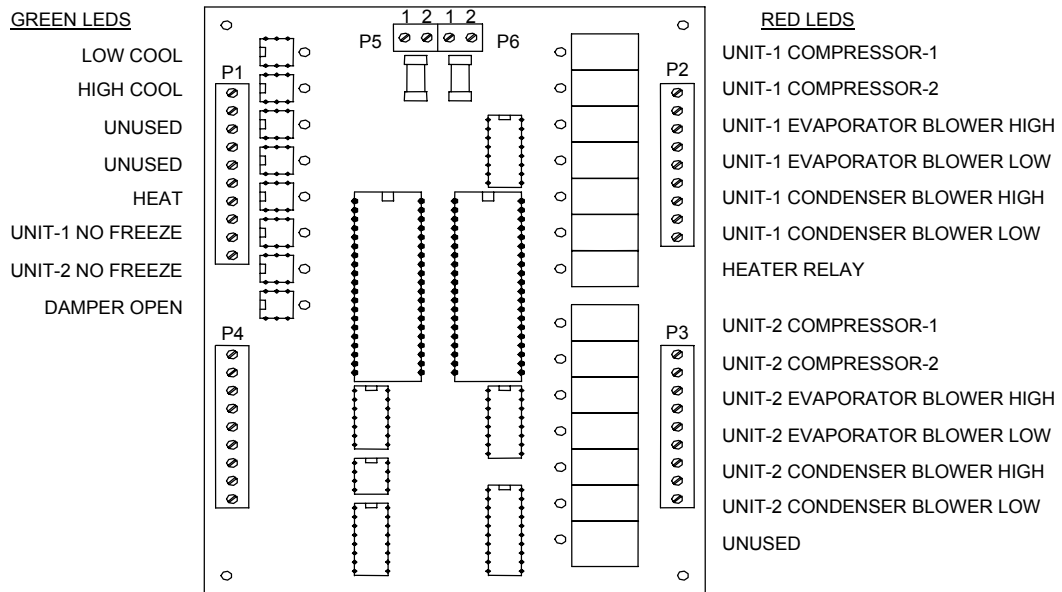

Figure 1. ECU Controller Board.
**Environmental Control Unit (ECU):** The ECU is controlled from the wall switch in the food preparation area. If the ECU is not cooling or warming properly, check that the ECU Mode Switch in the food preparation area is set to the proper position. At the ECU Control Box located on the Mechanical Room wall behind the generator, next to the air conditioners, check the power supply output voltage at P5 (5 VDC) and P6 (12 VDC) as shown in Figure 1. If the voltage is not correct, replace the power supply. If the voltage is correct, perform the following diagnostic check to isolate the problem to an individual ECU and verify operation of the ECU control card.
Remove the access panels of both air conditioners. Set the ECU Mode Switch in the operating area for High Cool. Monitor ECU operation by noting the LEDs as shown in Figure 1 LED configuration is also shown on the inside cover of the control box. As the air conditioners are automatically cycled through their operation (See Figure 2 for reference) note the sequence of events.